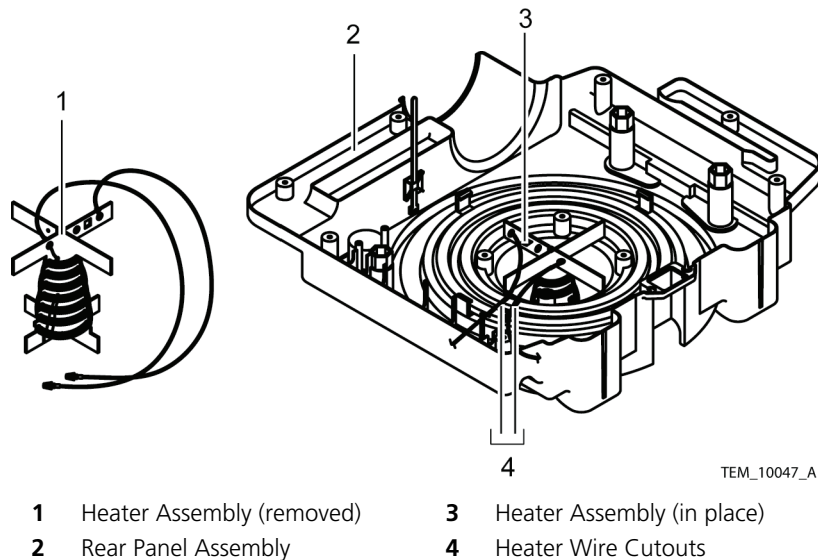

Figure 47. Heater Assembly Installation
Ensure that the heater thermostat (Figure 47, item 3) is oriented upward when reinstalling the heater in the rear cover assembly.
17. Slide the new heater into the rear cover assembly. See Figure 47.
18. Orient the heater so that the heater thermostat (Figure 47, item 3) is nearest the rear cover assembly handle (Figure 47, item 2).
19. Route the black and red wires from the heater through the cut-outs in the rear cover assembly (Figure 47, item 4).